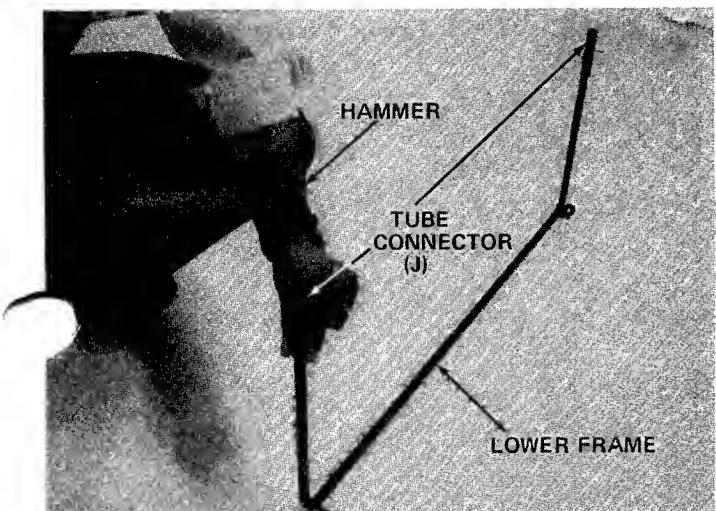

FIGURE 2
- 1. Place the catcher frame assembly (lower half) on the floor or work bench and with a hammer tap on the tube connectors (J), one on each end. See figure 2.